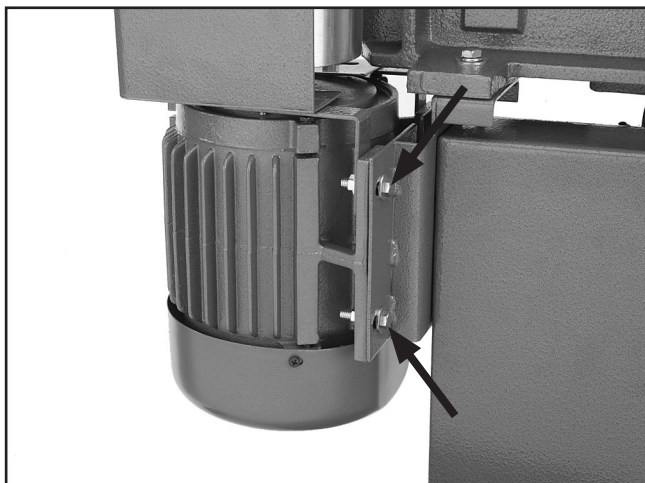

Figure 57. Two of the four motor mount bolts.
3. Loosen the four motor mount bolts/nuts that secure the motor to the motor bracket. **Figure 57** shows two of the four motor mount bolts.